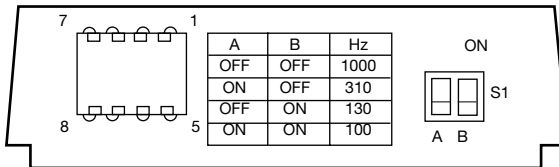

Fig 12
- When the Pulse Width Modulated (PWM) output option card is selected, locate the DIP switch on the PWM card. (See Fig.12.) Select the required output frequency using the matrix table printed on the PWM card and set the DIP switch positions accordingly. Insert connector of PWM card onto the vacant pins of header JP7. Monitor the PWM output with respect to GND using an oscilloscope. Power up the UCM.